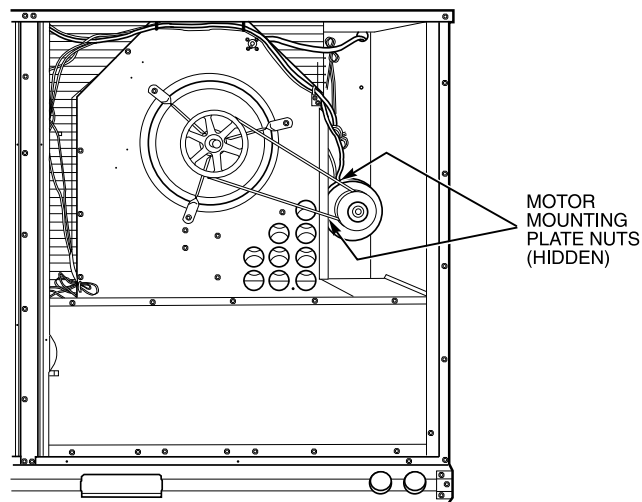

Fig. 28 — Typical Belt-Drive Motor Mounting for Size 012
3. *Size 012* — Slide motor mounting plate downward to tighten belt tension. Secure motor mounting plate nuts. See Fig. 28.